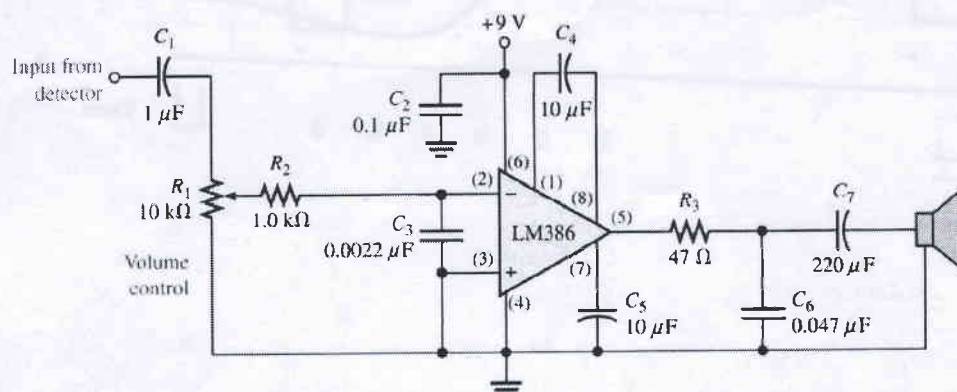

Figure Q5. The LM386 audio amplifier circuit.
- Q5. (a)** Discuss the function of the components of the audio amplifier shown in Figure Q5 and determine the maximum and the minimum output voltages for the audio power amplifier shown in figure Q5 if the input voltage from the detector is 10 mV rms. Given the gain of the LM386 is 200